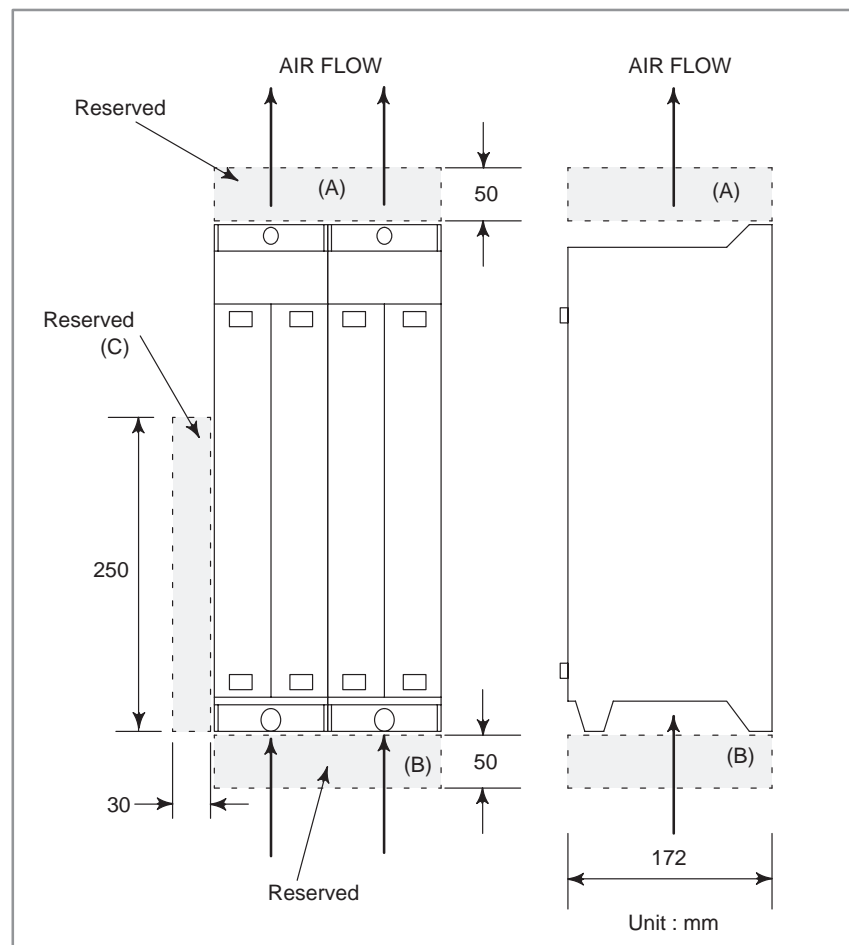

Fig.3.7.1
The rack consists of a plastic box, fan motors and a backplane PCB. Since the rack is provided with built-in fan motors, it does not require the external air flow conditions described in Section 3.5. The air comes into the rack from the bottom and goes out through the fan motor, which is located on the top of the rack. Space as shown in Fig. 3.7.1 must be reserved not to disturb the air flow ((A), (B))
The backplane PCB, which is located on the rear side of the rack, interconnects the PCBs installed in the rack. It has another connector which appears at the left side panel of the rack (except for 21-TB control unit). This connector is used for testing the controller, connecting other purposes. The space for this shall be reserved as shown in (c) of Fig. 3.7.1.